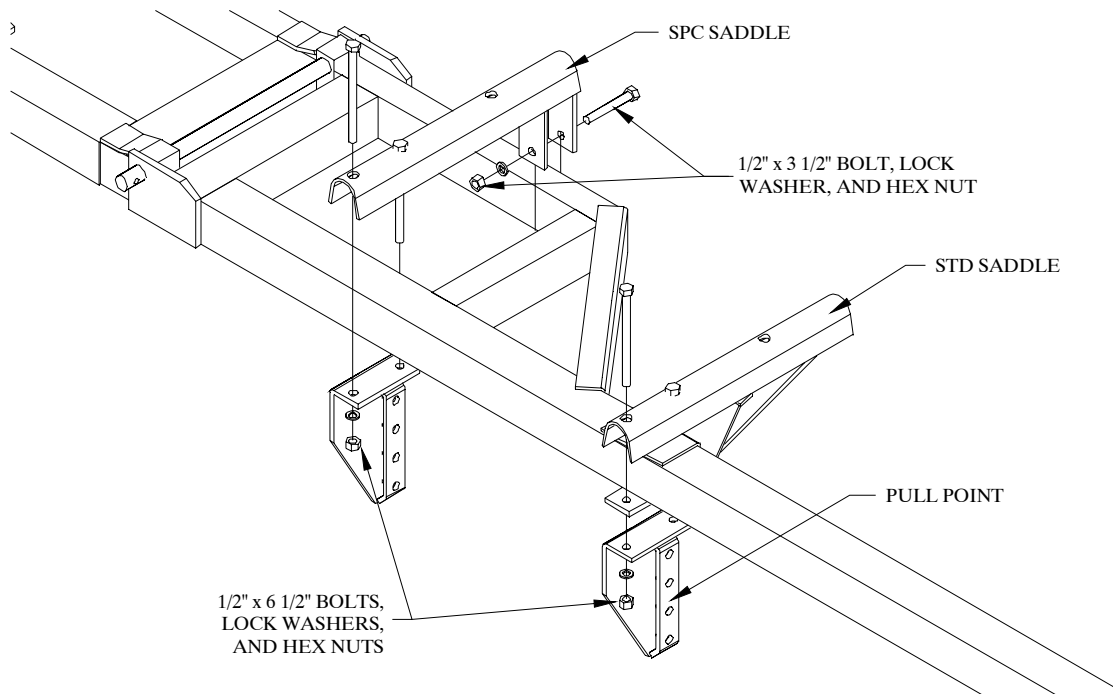

Figure 8
- Note that there are two different types of saddles: standard (STD) saddles and special (SPC) saddles (refer to Figure 8). STD saddles are used where lift arms intersect a single wing tube. SPC saddles are used where lift arms intersect dual, or trussed, wing tubes, or the center bar assembly. Each are mounted in a slightly different way.